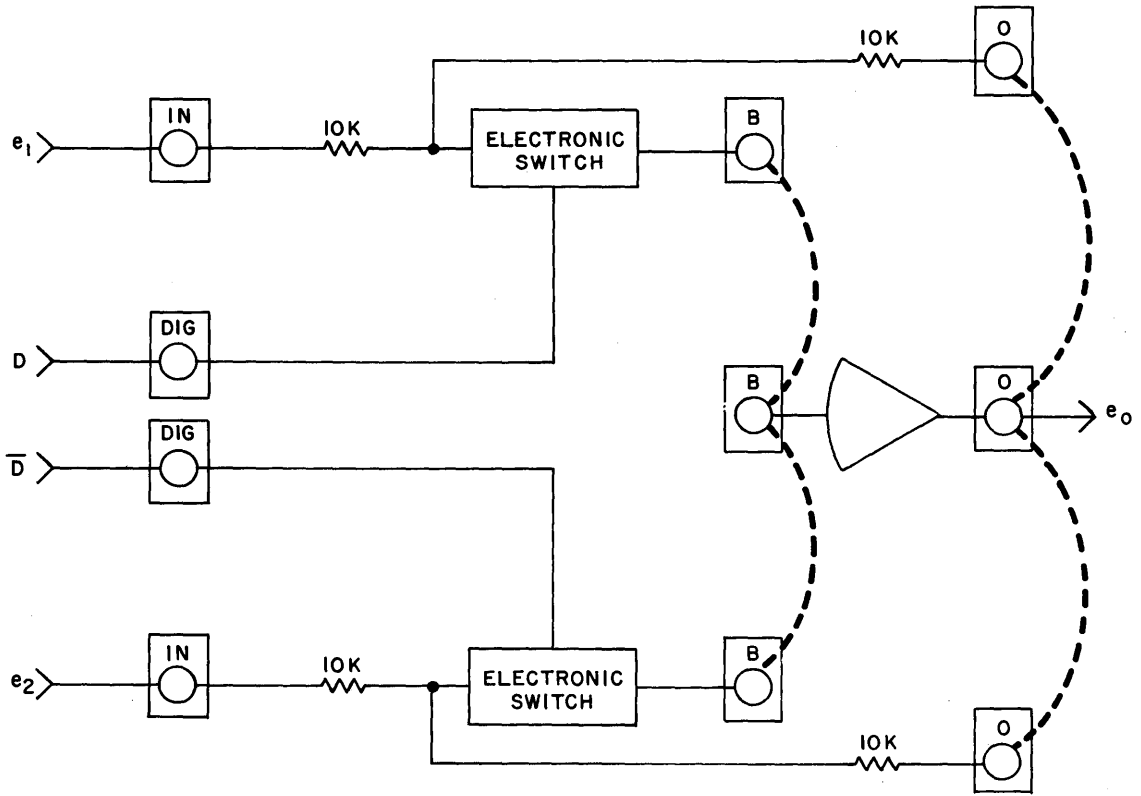

Figure 6. Electronic Selector Switch, Block Diagram
(2) *Electronic Selector Switch.* An electronic selector switch is shown in block diagram form in Figure 6. The complementary control inputs (D , \bar{D}) may be applied from the 1 and 0 outputs of a comparator or external digital equipment. When D is a binary ONE and \bar{D} is a binary ZERO, the upper switch on the drawing is closed and the lower switch is open. This state produces an output of $-e_1$. Likewise, if D is a binary ZERO, the output is $-e_2$.